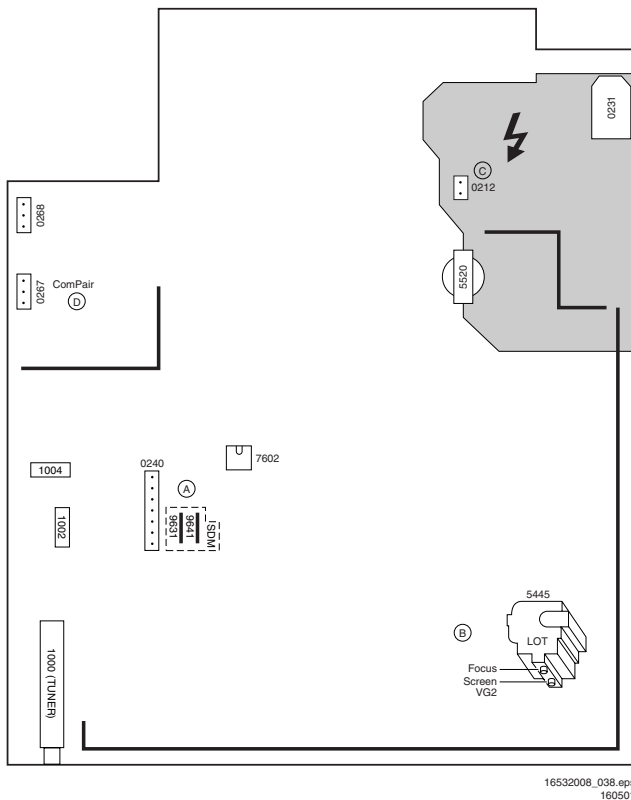

Figure 8-1
10. Select the cathode with the highest  $V_{DC}$  value for the alignment. Adjust the  $V_{cutoff}$  of this gun with the SCREEN potentiometer (see Fig. 8-1) on the LOT to the correct value (see table below).
3. Adjust the FOCUS potentiometer (see Fig. 8-1) until the vertical lines at 2/3 from east and west, at the height of the centreline, are of minimum width without visible haze.